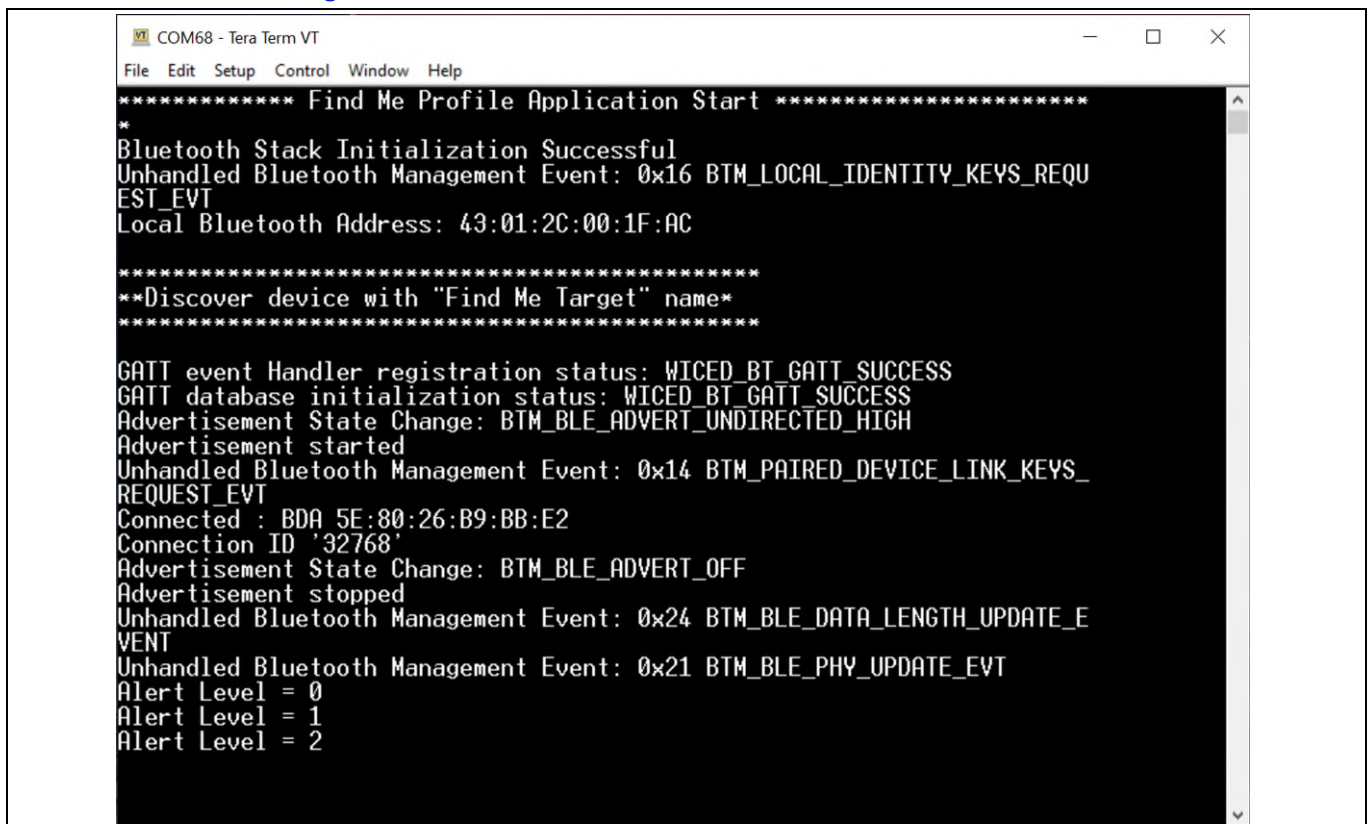

Figure 33 Log messages on USB – UART serial port
- Use the USB – UART serial port to view the Bluetooth® stack and application trace messages in the terminal window as shown in Figure 33.